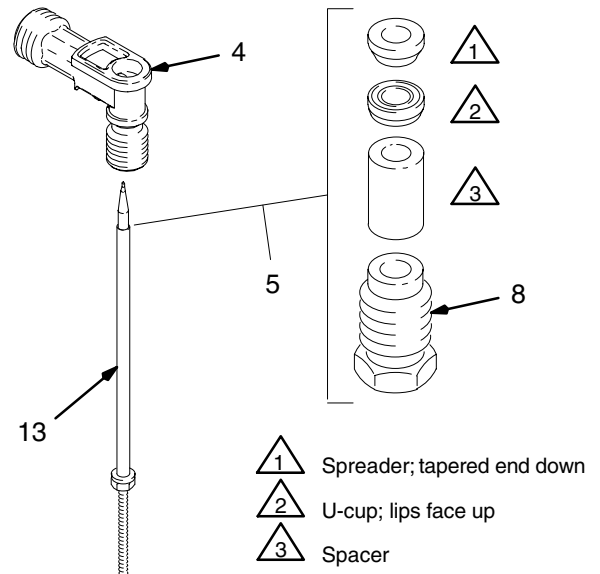
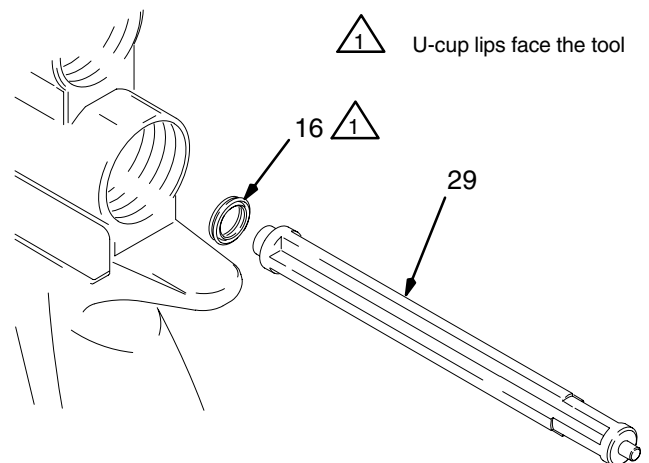
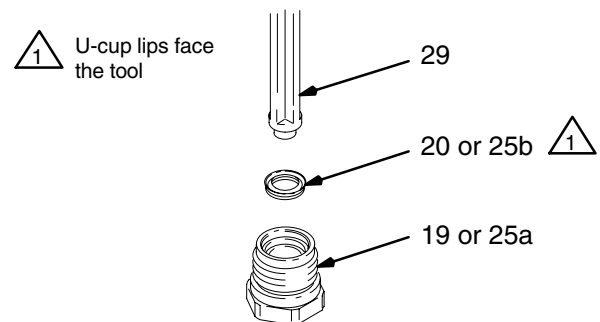

Fig. 27
Fig. 30
Fig. 31
12. Place the new fluid packings (5) and packing screw (8) onto the needle (13). See Fig. 27 for the orientation of the parts.
13. Insert the fluid needle (13) into the back of the insert (4) to install the fluid packings (5).
14. Tighten the packing screw (8) just enough to hold the packings (5) in the insert (4). The needle (13) must move freely. Remove the needle.
11. Place the new fluid packings (5) and packing screw (8) onto the needle (13). See Fig. 27, page 19, for the orientation of the parts.
12. Insert the fluid needle (13) into the back of the insert (4) to install the fluid packings (5).
13. Tighten the packing screw (8) just enough to hold the packings (5) in the insert (4). The needle (13) must move freely. Remove the needle.
14. Unscrew the pattern adjustment valve assembly (25).
17. One at a time, install the new u-cup seals (25b) with the seal installation tool (29); the u-cup lips must face toward the tool as shown in Fig. 31.
22. Place the new u-cup (16) on the seal installation tool (29), with the u-cup lips facing the tool as shown in Fig. 30.
23. Push the packing (16) into the back of the gun until a definite snap is felt.
24. Remove the u-cup seal (20) from the fluid valve nut (19). Be careful not to damage the seal surface or the nut's internal threads.
25. Install the new u-cup seal (20) with the seal installation tool (29); the u-cup lips must face toward the tool as shown in Fig. 31. This will help apply even pressure to the u-cup lips and avoid damaging them.
26. Push the u-cup seal (20) into the fluid valve nut (19) until a definite snap is felt.